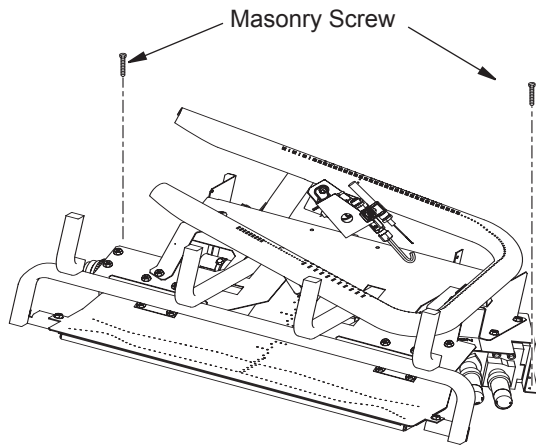

Figure 10 - Attaching Base to Fireplace Floor
3. Mark screw locations through holes in front panel of base (see Figure 10, page 8). If installing in a brick-bottom fireplace, mark screw locations in mortar joint of bricks.
6. Attach base, through holes in back side panels of base, to fireplace floor using masonry screws provided in hardware package (see Figure 10, page 8).